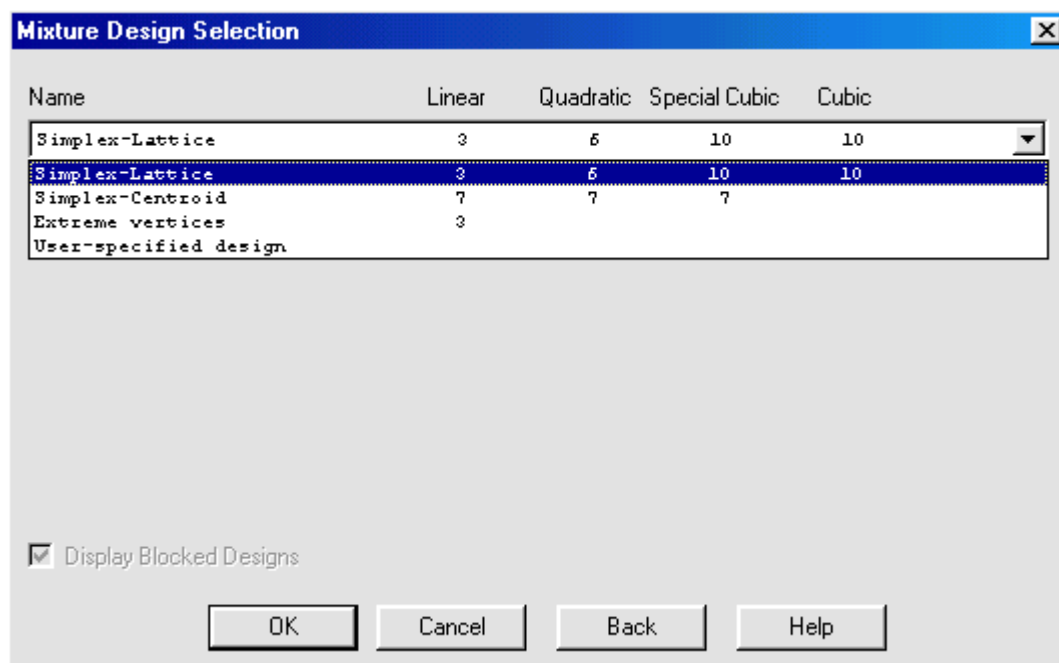
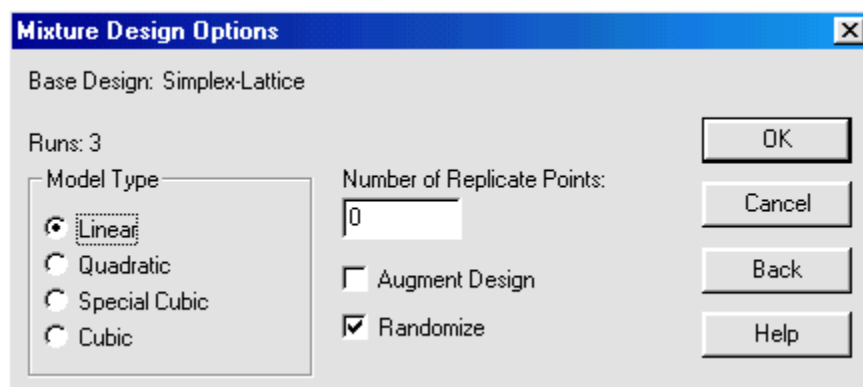

Figure 5-4. Mixture Design Selection Dialog Box
Figure 5-5. Mixture Design Options Dialog Box
7. Click OK to display the Mixture Design Selection dialog box shown in Figure 5-4.
9. Click OK to display the Mixture Design Options dialog box shown in Figure 5-5.
Use the *Mixture Design Selection* dialog box to choose another mixture design or the *Mixture Design Options* dialog box to make changes to the current design. See *Figure 5-4* and *Figure 5-5* for examples of these dialog boxes.